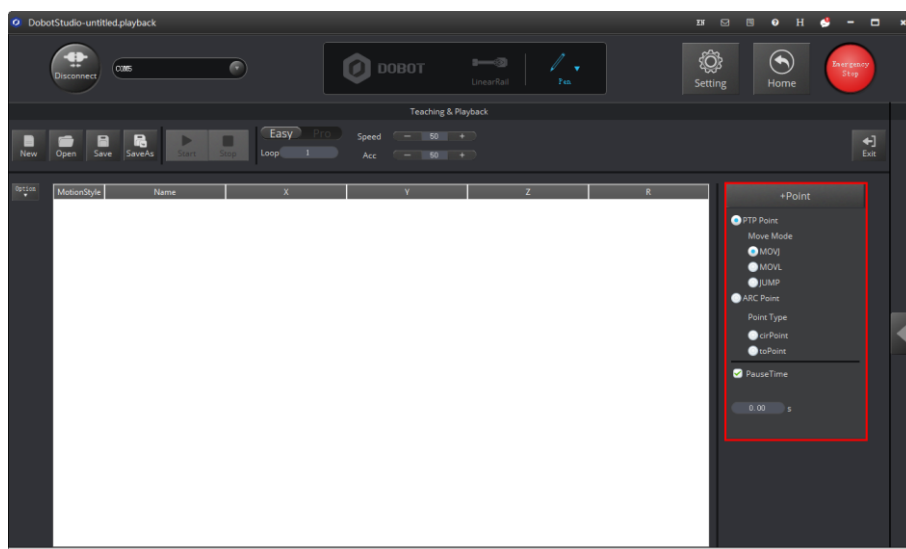

Figure 5.17 Set the save points, motion modes and pause time
- In both **Easy** and **Pro** modes, you can save points, set the motion mode and the pause time for a save point, as shown in Figure 5.17.